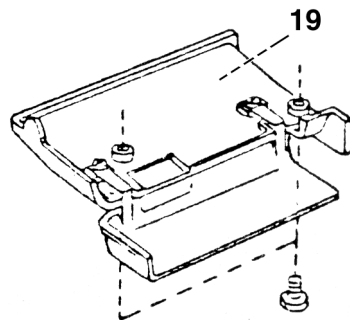

Fig. 13a
- Turn out both free-arm cover retaining screws (fig. 13a).